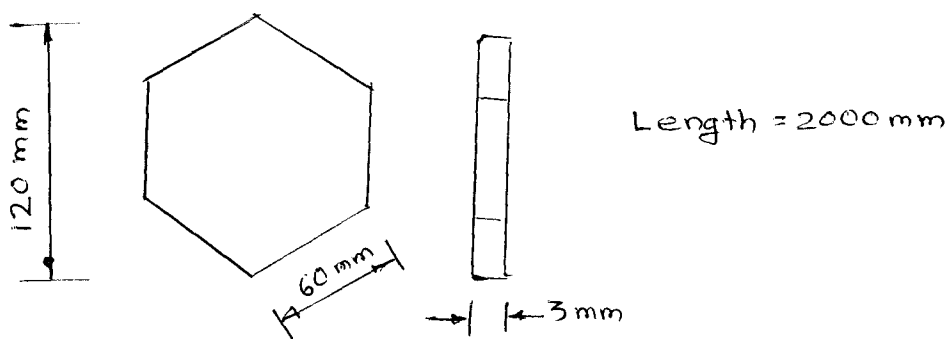

Figure 1.
- Q.5 Draw a simple blanking die for following product shown in Figure.1. Design the stripper layout, number of parts that can be punched from the strip, percentage of stock used, weight of material needed to produce one blank. [10]